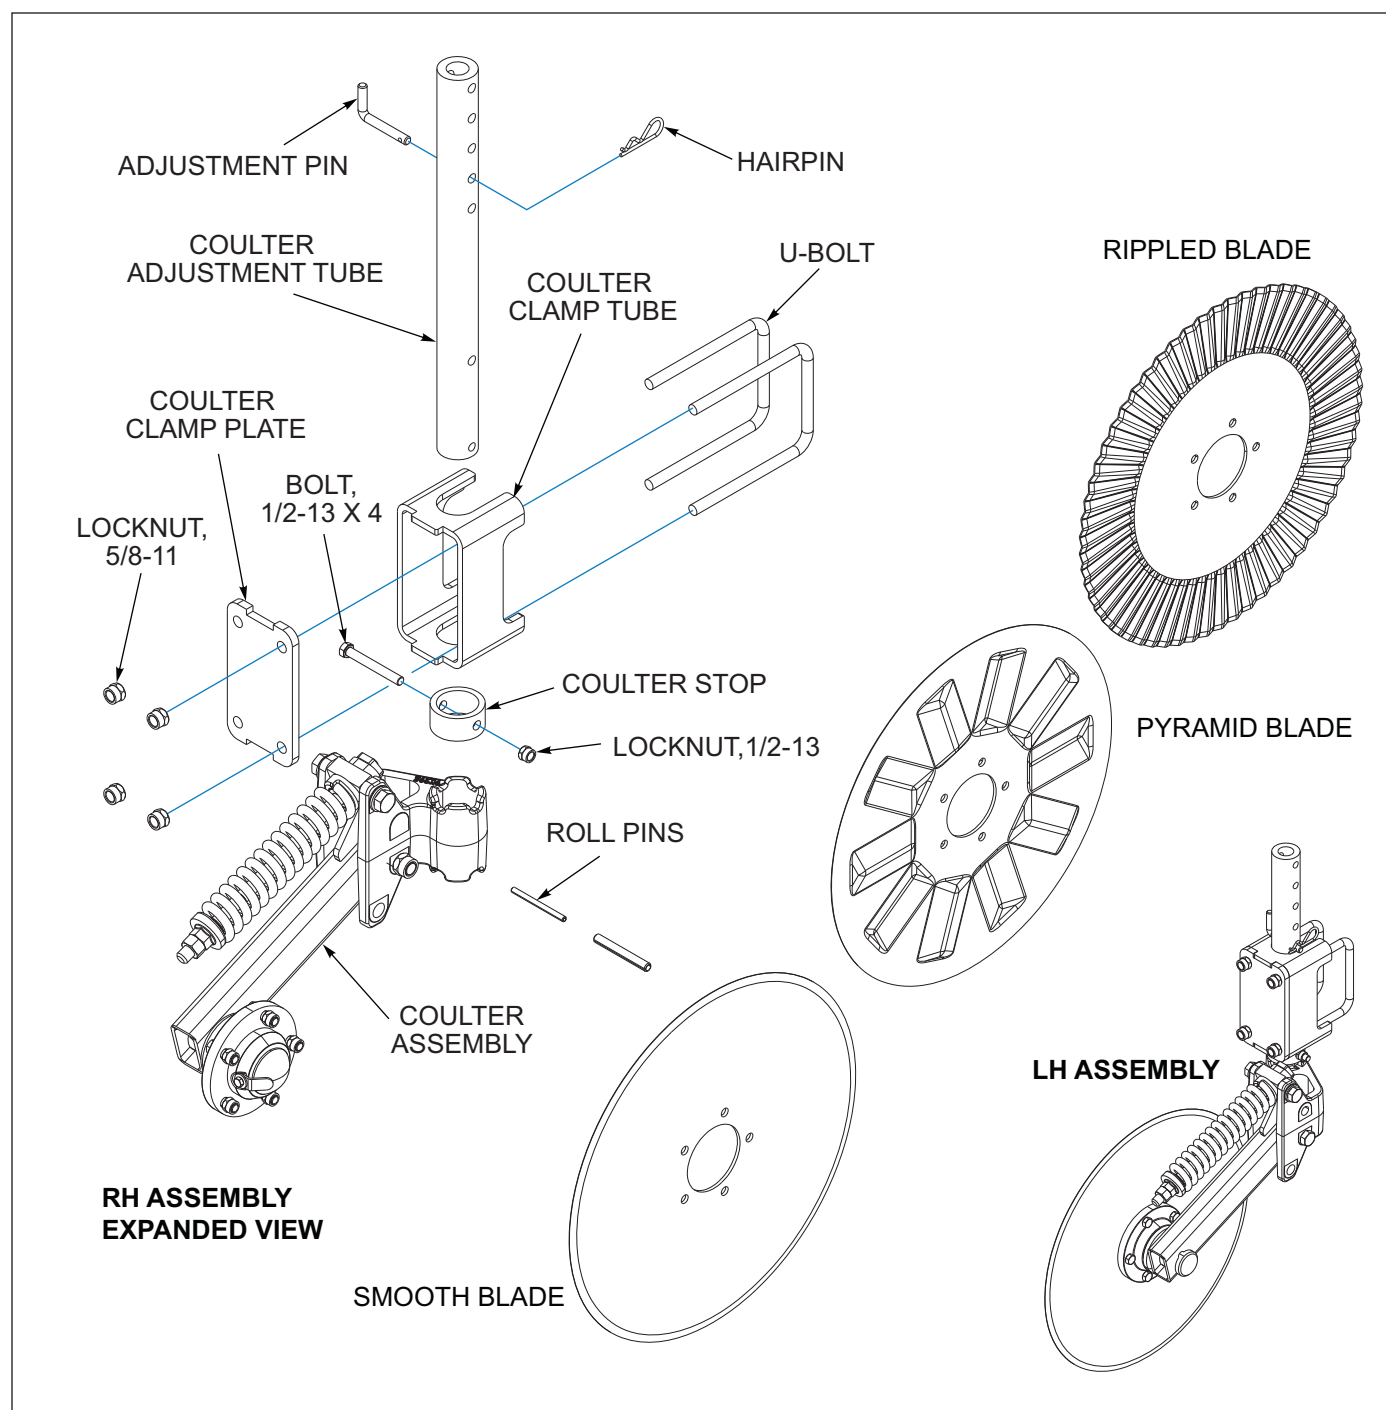

Figure 3-4: Coulter Assembly
1. Assemble Coulter Adjustment Tube to Coulter Assembly using Roll Pins $1/2 \times 4$ and $5/16 \times 4$. Assemble the Coulter Stop to the Coulter Adjustment Tube using $1/2 \times 4$ Bolt and Locknut. (**See Figure 3-4**)